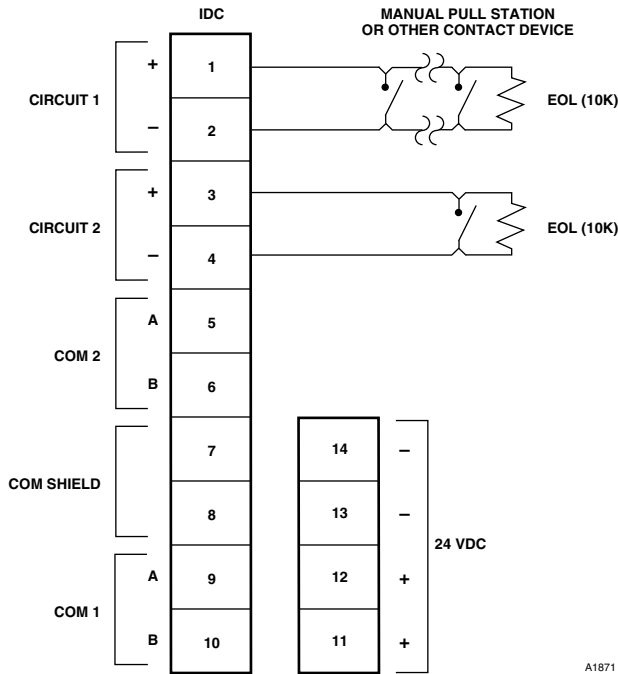

Figure 3-5—Terminal Configuration for IDC
2. Connect external system wiring to the appropriate terminals on the terminal block. (See Figure 3-4 for terminal block location and Figure 3-5 for terminal identification). The input to the IDC consists of one or more normally open switches (momentary pushbuttons are not recommended), with a 10K ohm, 1/4 watt EOL resistor in parallel across the furthest switch from the input.